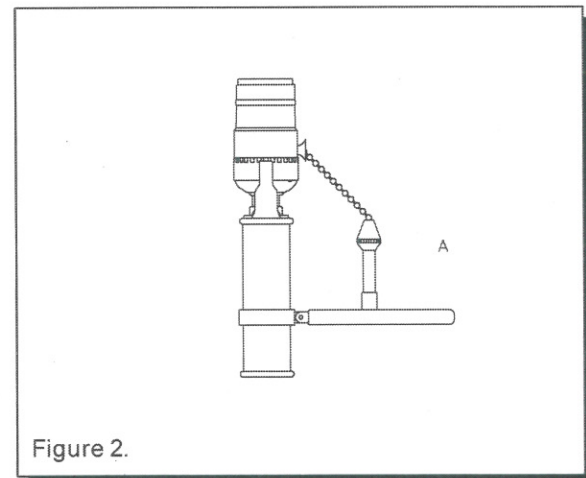

Figure 2.
- After repair the Clever Lever Switch™ assembly should look like Fig.2.